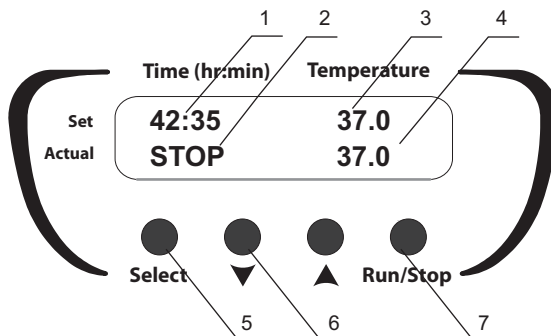
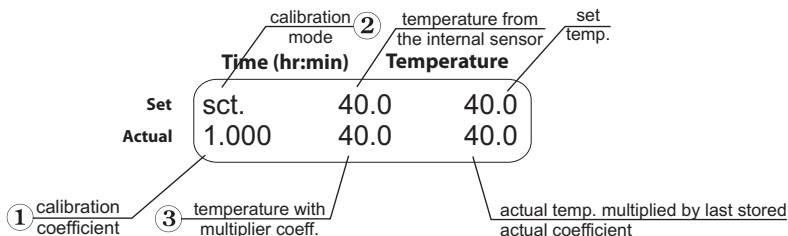
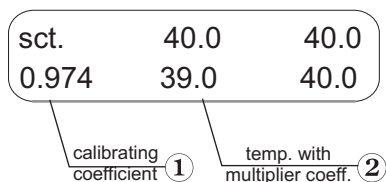

Fig.1 Control panel
Fig.2 Control panel in calibration mode
Fig. 3 Control panel in calibration and operation mode
- 4.3. Press the **Select** key (fig. 1/5) to choose the parameter to change. Each pressing of the **Select** key consecutively activates the parameters; the active parameter is flashing.
- 4.4. Use the ▲ and ▼ keys (fig. 1/6) to set the required temperature. Temperature resolution is 0.1°C. The set temperature will be displayed in the upper line of the display (fig. 1/3). Pressing the key for more than 2 s will increase the increment. The unit will start heating. The actual temperature will be shown in the lower line of the display (fig. 1/4).
- 4.6. Use the ▲ and ▼ keys (fig. 1/6) to set the desired time interval. Time resolution is 1 min. The set time value will be displayed in the upper line of the display (fig. 1/1). Pressing the key for more than 2 s will increase the increment.
- 4.7. Press the **Run/Stop** key (fig. 1/7) to start the timer. The elapsed time interval will be shown in the lower line of the display (fig. 1/2).
- 4.8. After the set time interval is elapsed the timer will give a sound signal and the flashing STOP indication will be shown on the display. Press the **Run/Stop** key (fig. 1/7) to stop the signal.
Stopping the timer does not stop the heating / temperature maintenance process. The heating can be stopped by reducing the temperature below 25°C using the ▼ T, C key (fig. 1/6) (OFF indication on the display, fig. 1/3).
- 5.2. To enter the calibration coefficient, hold the **Select** key (fig. 1/5) pressed for more than 8 s to activate calibration mode. The calibration coefficient will be shown on the display (fig. 2/1).
- 5.3. **Restoring factory settings.** Set 1.000 value using the ▲ and ▼ keys (fig. 1/6) as shown on Fig. 2/1 to restore the factory settings. Press the **Run/Stop** key (fig. 1/4) once to save the changes and exit the calibration mode.
- 5.4.4. Let us assume that the readings of independent sensor is 39°C, but the display's actual temperature is 40 °C (fig. 1/4). Then it is necessary to add 1°C correction.
- 5.4.5. Hold **Select** key (fig. 1/5) pressed for more than 8 s to activate calibration mode. The following parameters will be shown on the display (fig. 2).
- 5.4.6. Using the ▲ and ▼ keys (fig. 1/6), change the calibration coefficient (fig. 3/1) so that the new temperature value (fig. 3/2) corresponds to the independent sensor temperature. In our example, the calibration coefficient will be 0.974.
- 5.4.7. After finishing the calibration press the **Run/Stop** key (fig. 1/4) once to save the changes and exit the calibration mode.